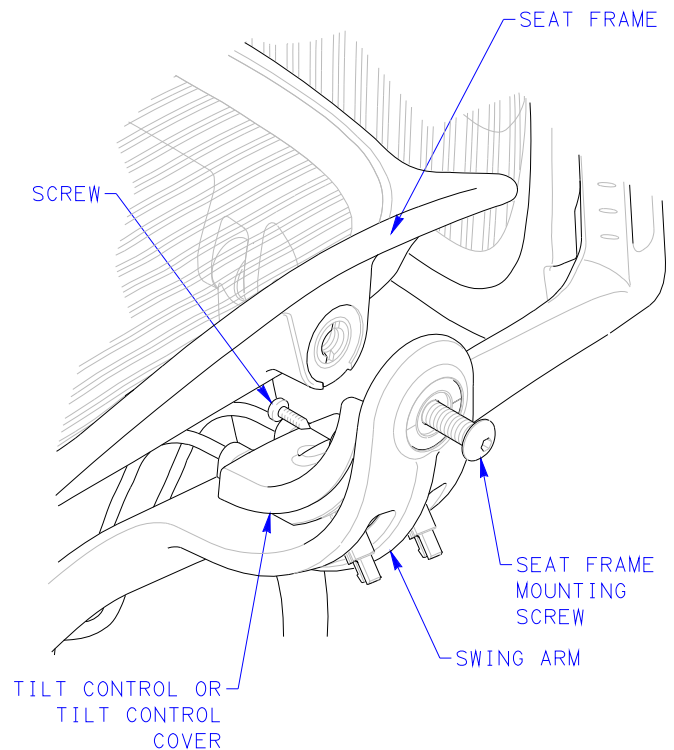

FIGURE 2
2. USING 6MM HEX BIT AND RATCHET WRENCH, LOOSEN SEAT FRAME MOUNTING SCREW ENOUGH TO DISENGAGE SCREW FROM SEAT FRAME. SEE FIGURE 2.
3. USING #2 PHILLIPS HEAD SCREWDRIVER, REMOVE AND SET ASIDE SCREW FASTENING TILT CONTROL TO SWING ARM. KEEP THIS SCREW ISOLATED FROM ALL OTHER HARDWARE WHILE UNDERGOING THIS PROCEDURE. SEE FIGURE 2.
4. LIFT SEAT FRAME SLIGHTLY FOR ACCESS TO TILT CONTROL. REMOVE TILT CONTROL FROM SWING ARM. REST SEAT FRAME ON SWING ARM. SEE FIGURE 2.
10. LIFT SEAT FRAME SLIGHTLY AND INSTALL REPLACEMENT TILT CONTROL INTO SWING ARM. SEE FIGURE 2.
11. SECURE TILT CONTROL TO SWING ARM WITH SCREW. SEE FIGURE 2.
12. REINSERT SCREW SECURING SEAT FRAME TO SWING ARM. TORQUE SCREW TO 175-225 IN-LBS. SEE FIGURE 2.